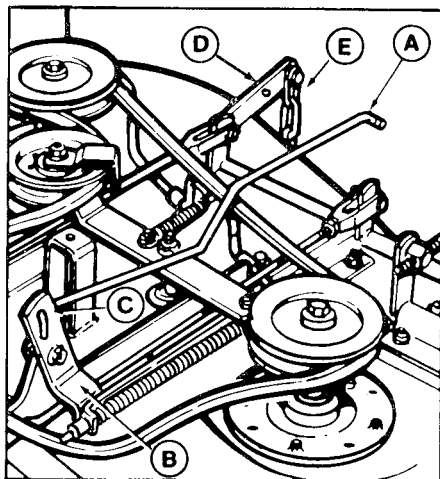

Figure 1. PTO Rod Connection - 36" Mower Shown
If there are two holes in the mower lift bracket (D, figure 1), make sure the chain (E) is connected to the rear hole.
2. The PTO rod must be attached to mower PTO arm before sliding mower under tractor. Insert the end of the PTO rod from the right-hand side and work the "S" bend around until rod appears as in figure 1.